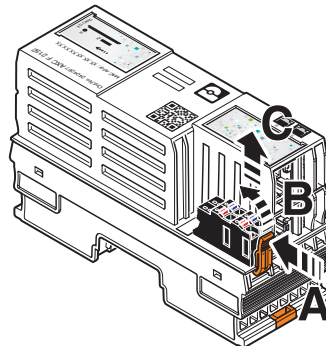

Figure 10-3 Removing the supply plug
- Release the locking latch (A in Figure 10-3), tilt the plug upwards slightly (B in Figure 10-3), and remove it from the controller (C in Figure 10-3).